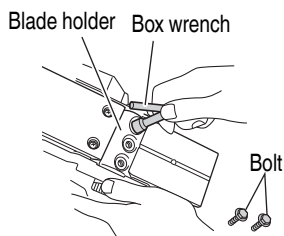

Fig. 19
- (1) As shown in Fig. 19, use the box wrench to loosen the three bolts used to retain the carbide blade, and remove the blade holder.